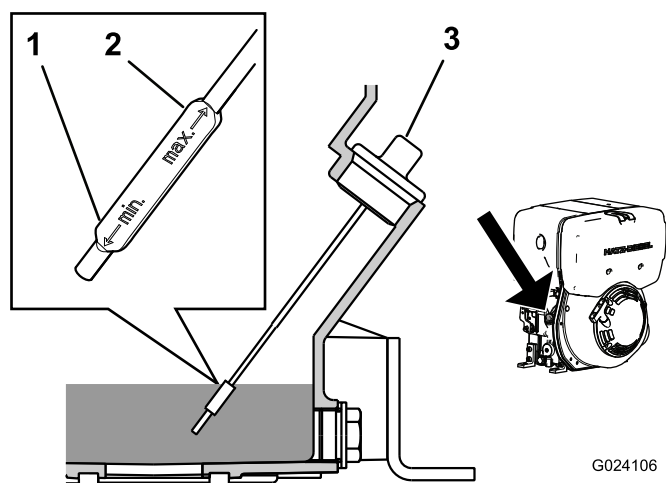

Figure 26
6. Clean around the dipstick (Figure 26) so that dirt cannot fall into the filler hole and damage the engine.